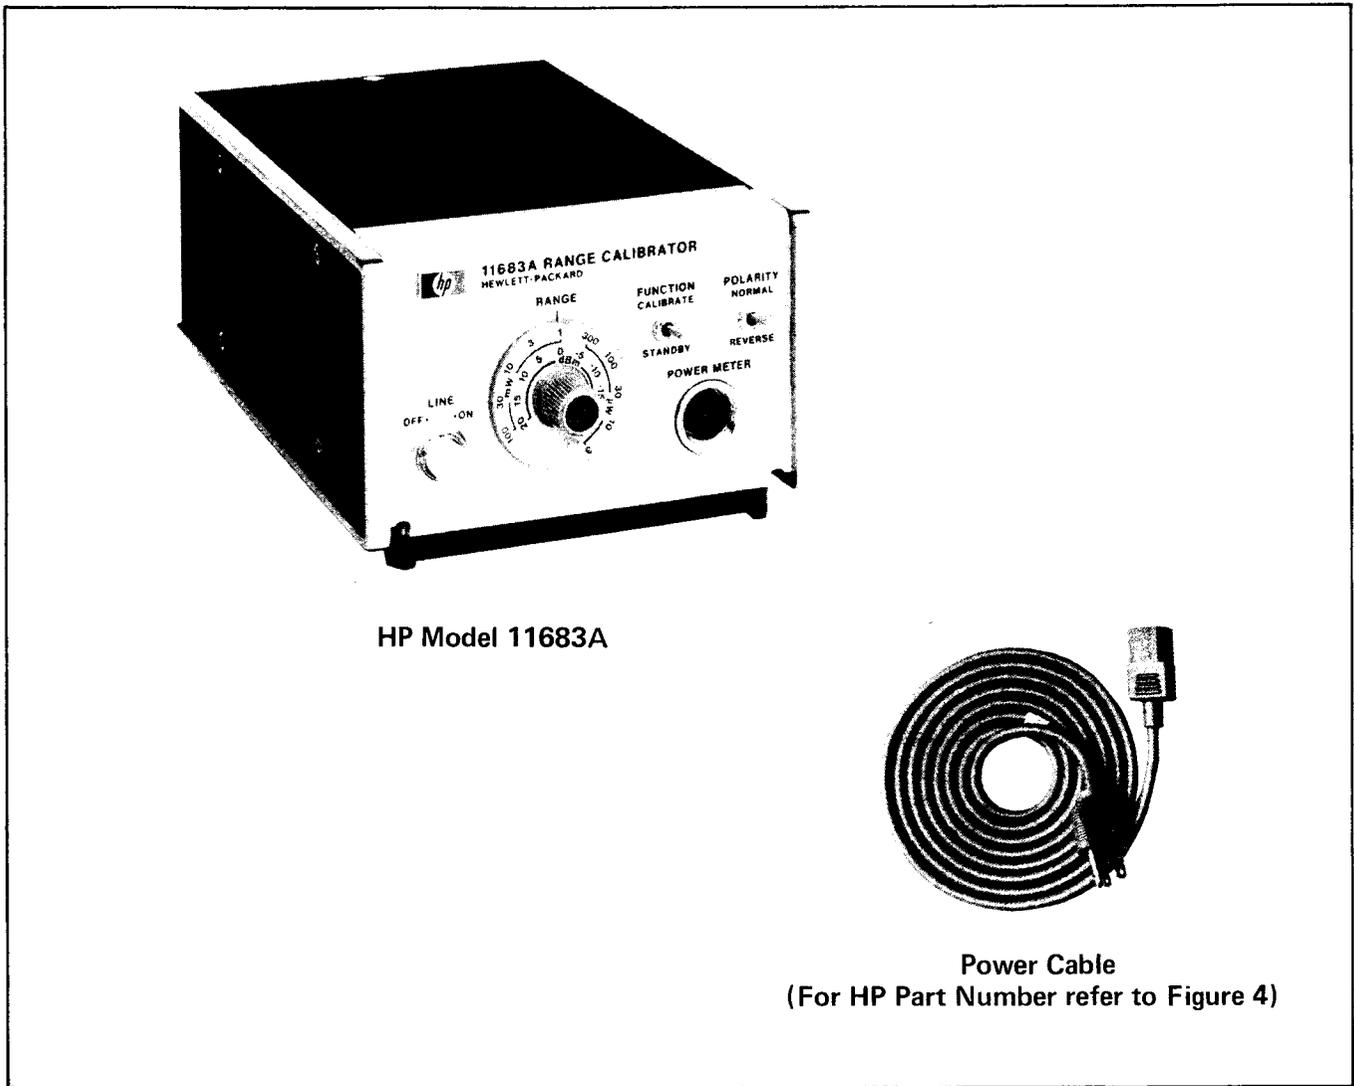

Figure 1. HP Model 11683A Calibrator and Accessories Supplied
4. The 11683A and all supplied accessories are shown in Figure 1. The published specifications are listed in Table 1.